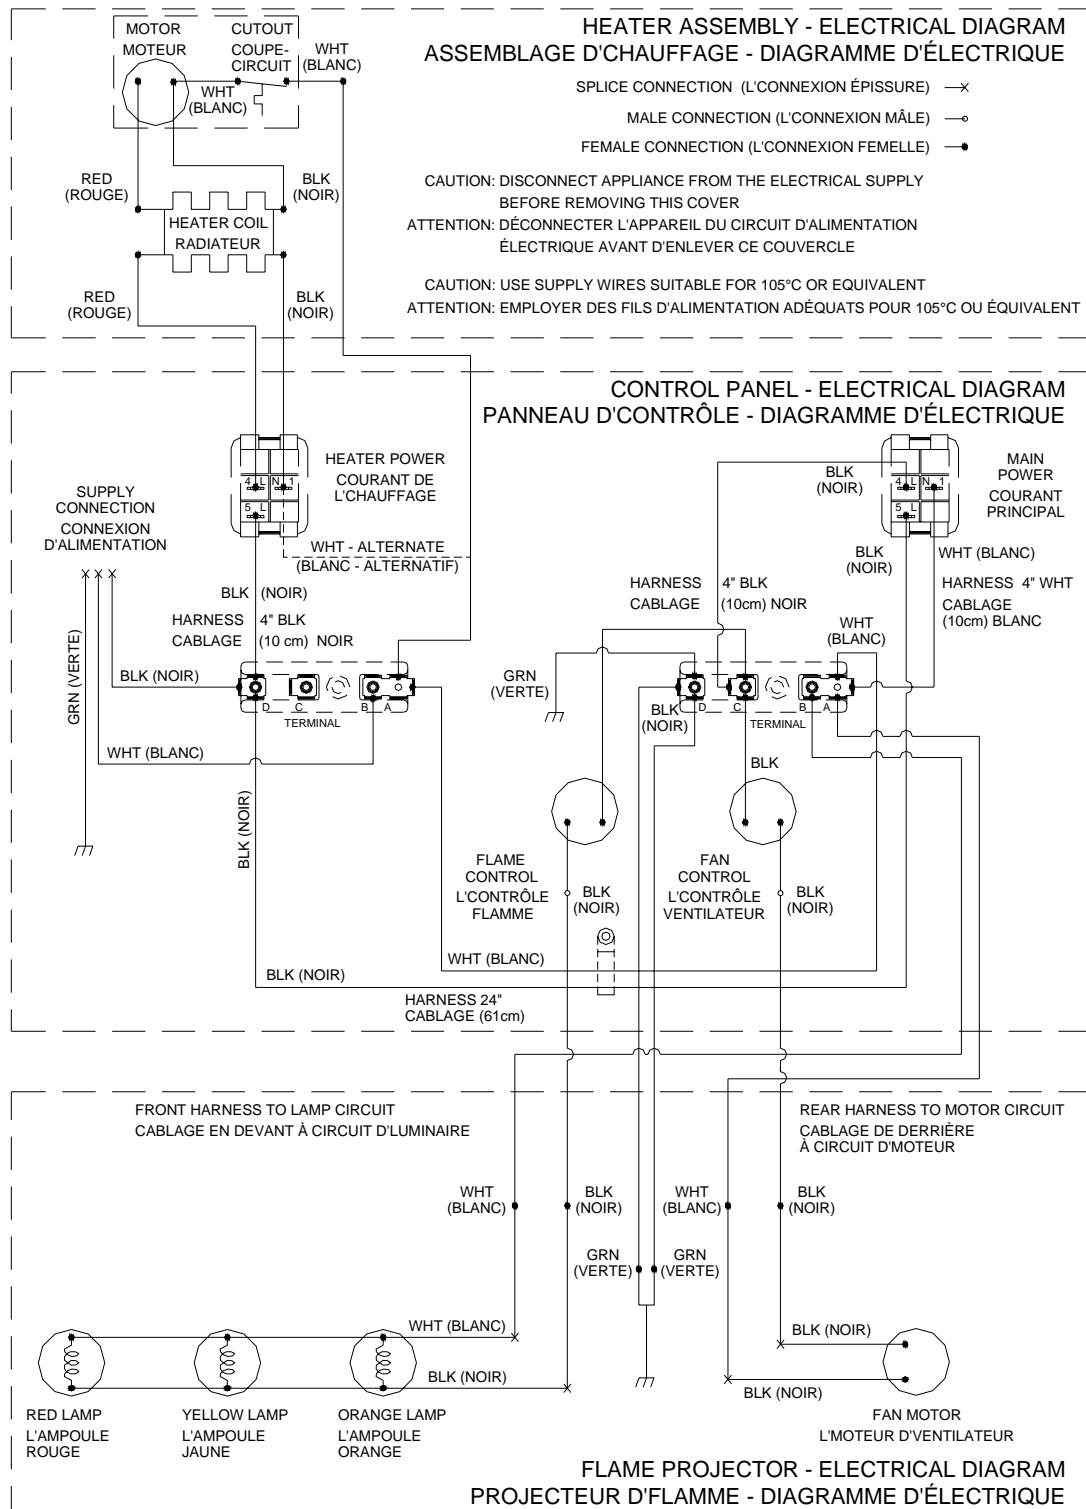

Figure 28 - Wiring Diagram
CAUTION: Note the location of all wires prior to disconnecting. Be sure to reconnect wires to their proper locations. If you are unsure about the proper wire locations, follow the wiring diagram Figure 28, on page 12.
3. Remove the 2 crimp connectors in the harness and disconnect the **white** and **black** wires on the defective fixture. See *Wiring Diagram*, **Figure 28**, page 12 for proper locations.